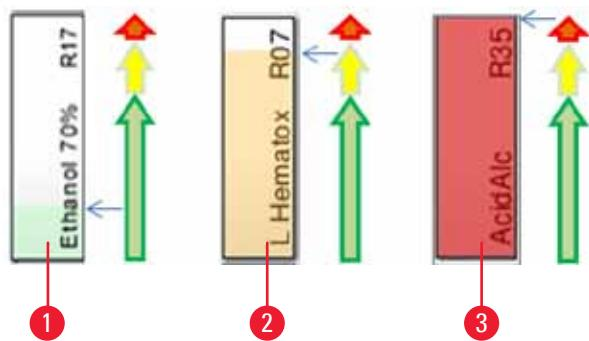

Fig. 70
- A background color ( $\rightarrow$  "Fig. 70")
- The background color shows the consumption status of the reagent (→ "Fig. 70"). As the reagent is consumed, the color bar rises from the bottom to the top and changes color based on the consumption status.